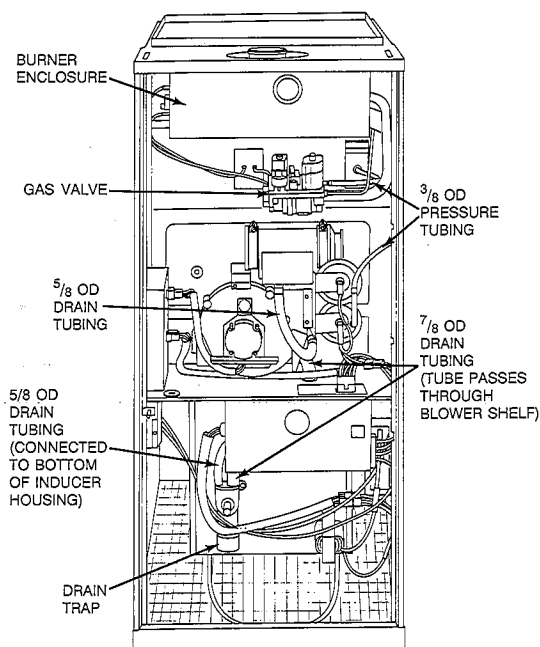

Fig. 7—Pressure and Drain Tubing Diagram
19. Loosen hose clamp and remove drain tube from inducer housing located on bottom side of blower shelf. (See Fig. 7.)
23. Loosen hose clamp and remove 7/8-in. drain tube from trap. (See Fig. 7.)
- e. Reconnect pressure tubes to pressure switches. (See Fig. 7.)
- f. Connect small drain tube from top of trap to fitting on bottom of inducer housing. (See Fig. 7.)
5. Connect 7/8-in. drain tube to trap and collector box; tighten hose clamps. (See Fig. 7.)
1. Disconnect 5/8-in. drain tube from bottom of inducer housing. (See Fig. 7.)
2. Disconnect 7/8-in. drain tube from collector box. (See Fig. 7.)
7. Reassemble condensate drainage system by reversing items 1. through 5.